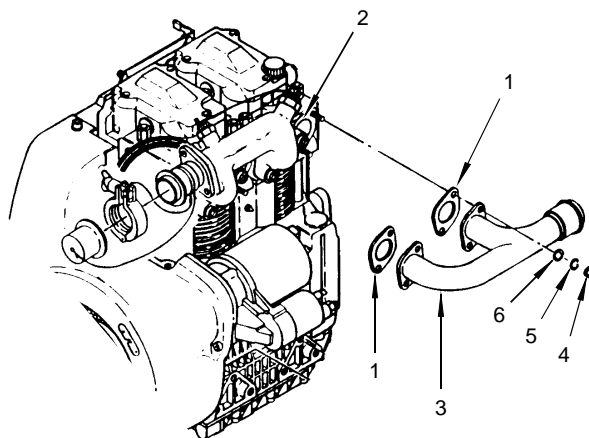

Figure 22. Install Exhaust Manifold
**INSTALL EXHAUST MANIFOLD** (Refer to Figure 22.)**INITIAL SET-UP:****Tools:**